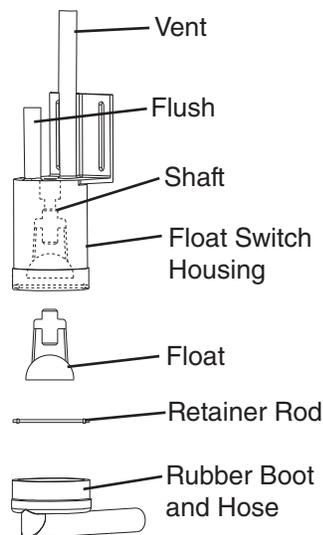

Fig. 4
- 3) Disconnect the vent tube and the flush tube from the top of F/S, then remove F/S assembly and remove the rubber boot from the bottom of F/S assembly. See Fig. 4.